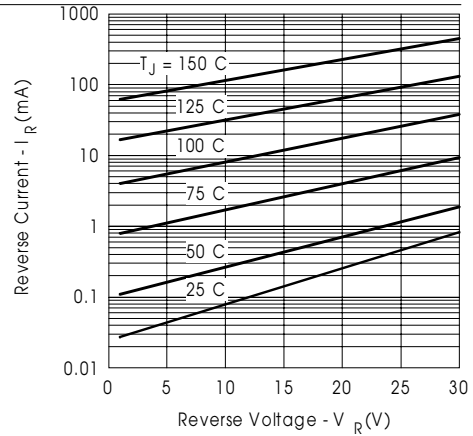

Fig. 2- Typical Values Of Reverse Current Vs. Reverse Voltage (PerLeg)
| I_{RM} Max. Reverse Leakage Current (Per Leg) * See Fig. 2 (1) | 2 | mA | $T_J = 25^\circ\text{C}$ |